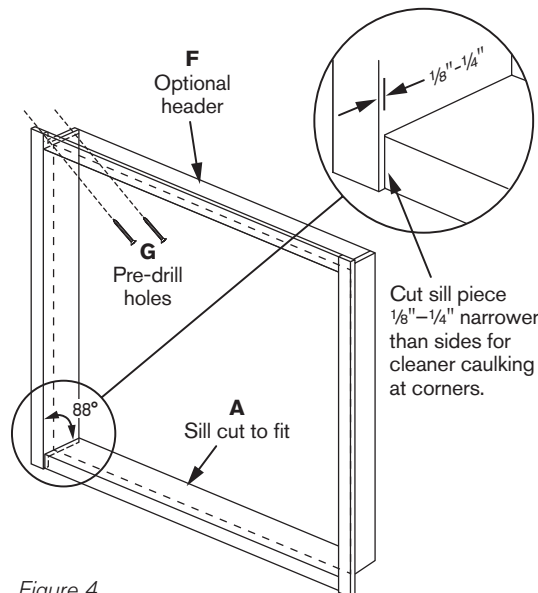

Figure 4
3. Cut sill piece (**A**) to length and width (cut slightly narrower than side pieces) and install *tipped forward* approximately 2° (or 1/16" – 1/8") for water run-off (Figure 4).